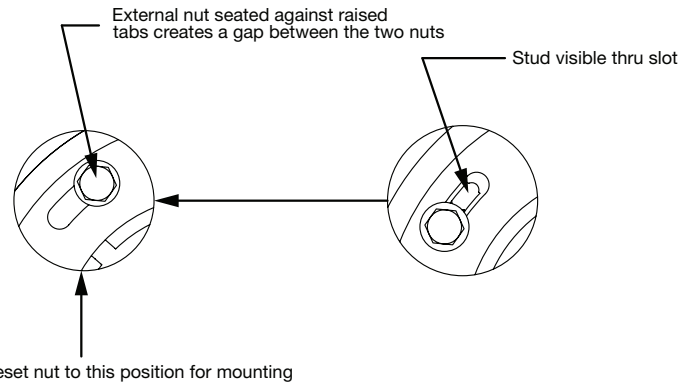

Figure 6 - External nut position for installation
2. Loosen the hex head mounting bolts and position the external nut so that it is seated on top of the raised tabs, which creates the gap between the external and internal nuts. The external nut should be rotated counter clockwise so that the bolts are shouldered against the side of slot as shown in Figure 6. Thread the hex head bolts into the internal nut through each one of the slots on the external nut about 3 turns.